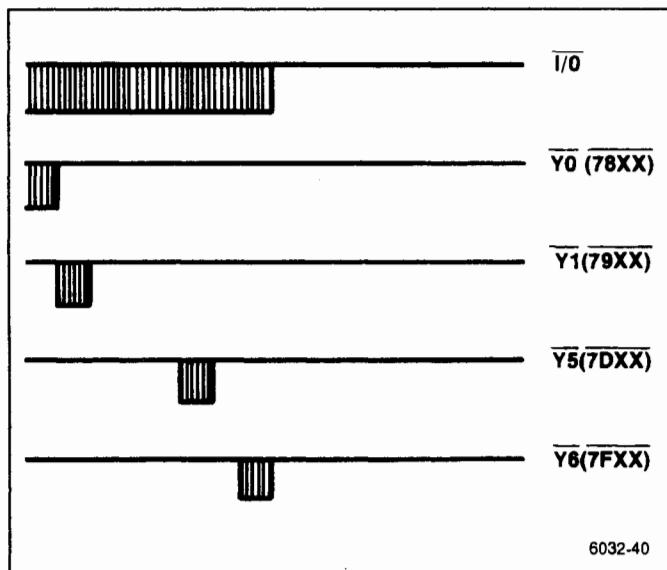

Figure 6-31. Chip selects Y0, Y1, Y5, and Y7 in relation to I/O.
**Processor Address Decoder** — Address decoder U3035 on the Processor board decodes several chip-selects. Y0, Y1, Y5, and Y7 are shown in relation to the I/O line in Figure 6-31.